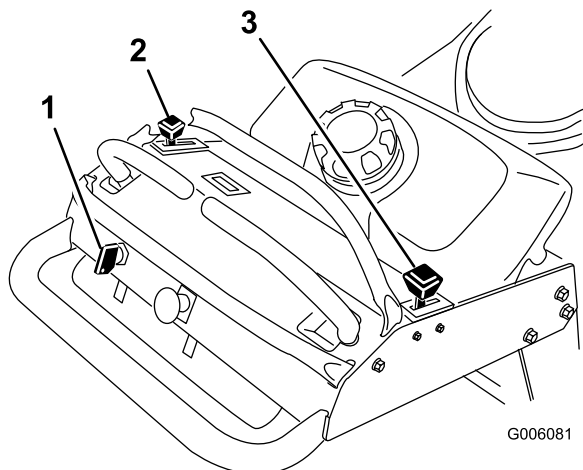

Figure 9
4. Move the throttle control to Fast, and move the choke lever to the On position before starting a cold engine (Figure 9).
2. Move the throttle lever to Slow (Figure 9).